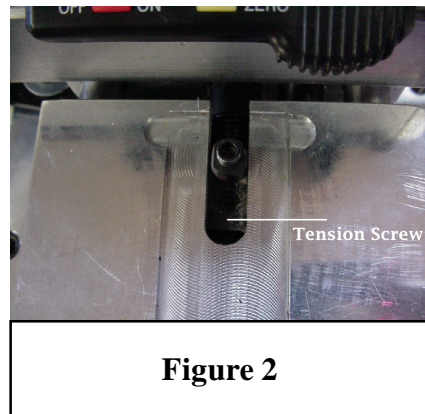

Figure 2
2. Lift up on the depth digital readout and pull it towards you; it should easily slide off of the machine. You will see two screws underneath (see figure 2 below)